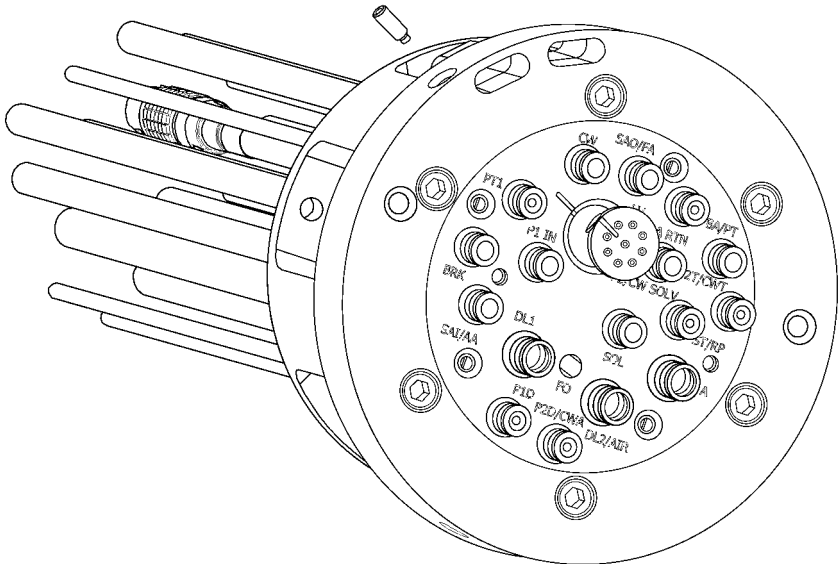

Figure 20: Low Voltage Cable Removal
LOW VOLTAGE CABLE REMOVAL - PARTS LIST (Figure 20)
3. Using 3/16" (4.8mm) Hex Key wrench, remove set screw [2] (see **Figure 20**).